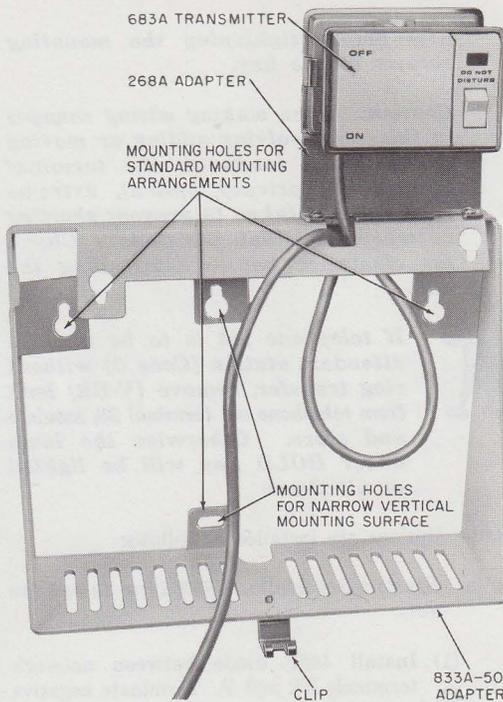
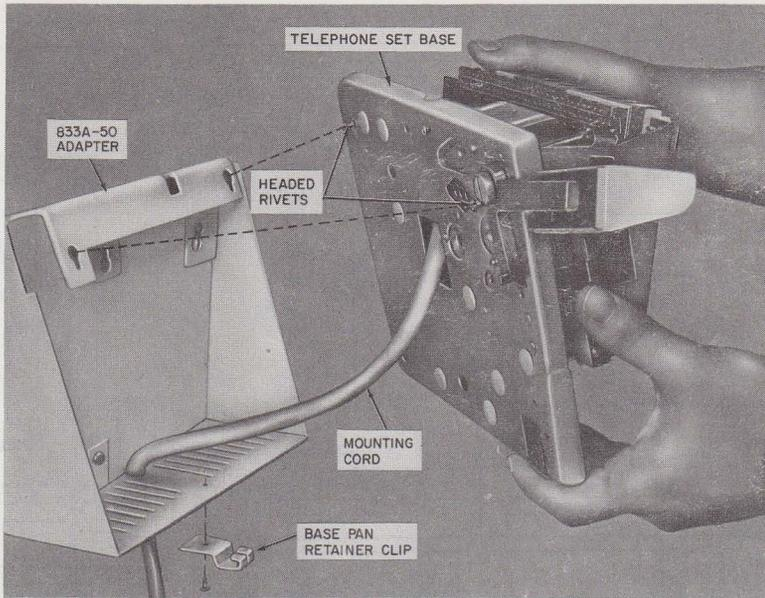

Fig. 4—833A-50 Adapter With 268A Adapter and 683A Transmitter
Fig. 5—Mounting Telephone Set Base onto 833A-50 Adapter
3.02 All DM and EM (wall type) sets are shipped with an 833A-50 adapter, screw, and clip (Fig. 4) which are used for mounting the telephone set to a vertical surface. Install the 833A-50 adapter and telephone set as follows.
(1) Mount the adapter to the wall or vertical surface as shown in Fig. 4, using appropriate fasteners (Section 080-720-105). If the mounting cord is to be dressed down the wall, it is necessary to pass the cord through the notch in the adapter before final attachment of the adapter to the wall (Fig. 5). If the cabling enters through the wall, the mounting cord may be contained within the adapter.
(2) Remove faceplate and housing from telephone set.
(3) Hang the telephone set on the adapter from the headed rivets that protrude from the base pan (Fig. 5).
(4) Secure the telephone set base with the clip and screws at the bottom of the adapter (Fig. 4).
(5) Install the telephone set options (see 3.04).
(6) Replace housing and faceplate.